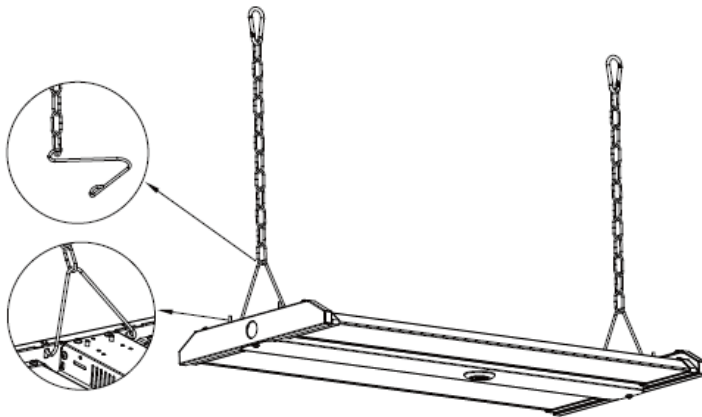

Figure 1
- Step 1. Hook up the chain. (Figure 1)
- Step 2. Connect the chain with the fixture. (Figure 1)
- Step 3. Fix the chain to an appropriate ceiling structure, adjust the chain length as per your need. (Figure 1)